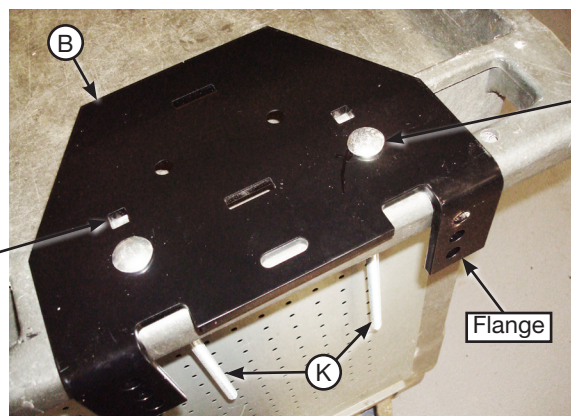

fig. D.9
- Flip the assemblies over and set a roll plate (F) onto the bottom of the air springs (Fig. D.9).